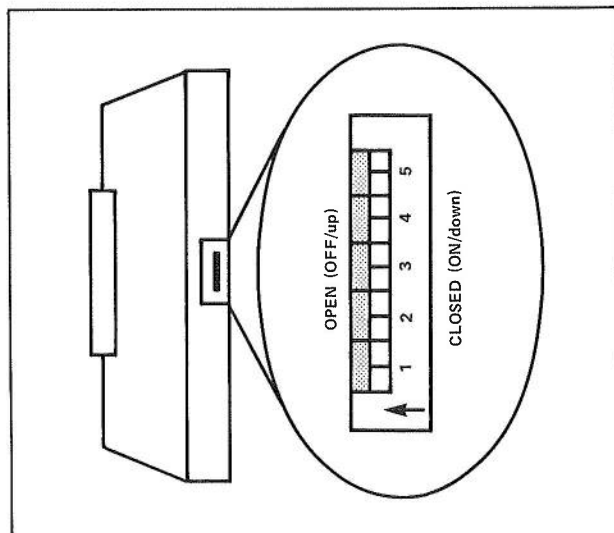

Figure 6 — Module Switches
Step 8 — Another rocker switch assembly is located near the rear edge of the Module. (See Figure 6.) It may be necessary to remove the Module from the Rack to see it.